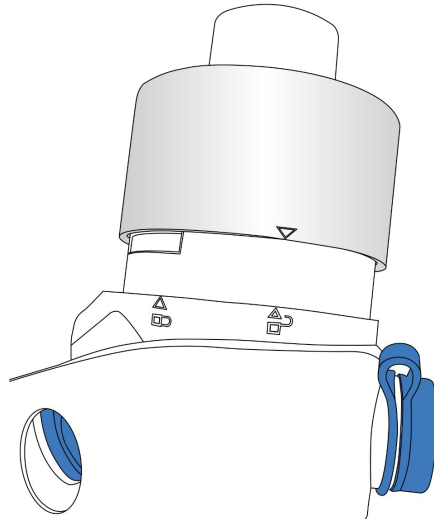

Figure 12 - Front cap aligned in the unlock position.
- Reconnect the green tubing to the associated elbow ensuring there are no kinks (Figure 12).
8. Align the arrow on the front cap with the unlock position on the flowhead body (Figure 12). Carefully push in the front cap fully and turn clockwise until in the locked position.